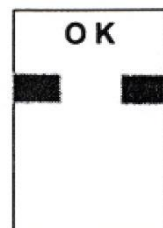

Figure 7
3.7 If the aircraft stops in the correct position, "OK" will be displayed after a few seconds (see figure 7).